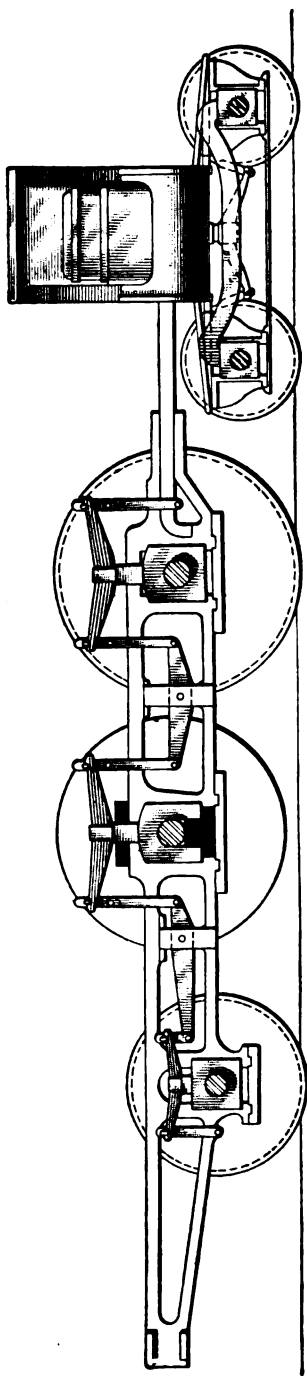

FIG. 39.
**79.** In the event of a back driving tire breaking on an Atlantic type engine, proceed as you would in the case of a tire breaking on a main driver of an eight-wheeled engine, and block up as shown in Fig. 39. Care should also be taken to see that the driver brake is cut out.